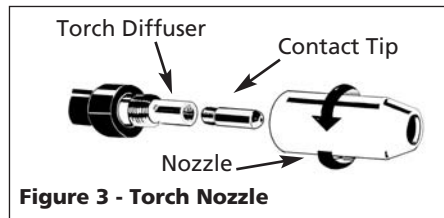

Figure 3 - Torch Nozzle
- Wire matches contact tip in end of torch (See Figure 3).
- Unscrew nozzle and contact tip from end of welding torch (See Figure 3). Plug welder into a proper power supply receptacle.
- Carefully slip contact tip over wire, screw tip into torch end and reinstall nozzle (See Figure 3). Cut wire off approximately 1/4 inch from nozzle end.